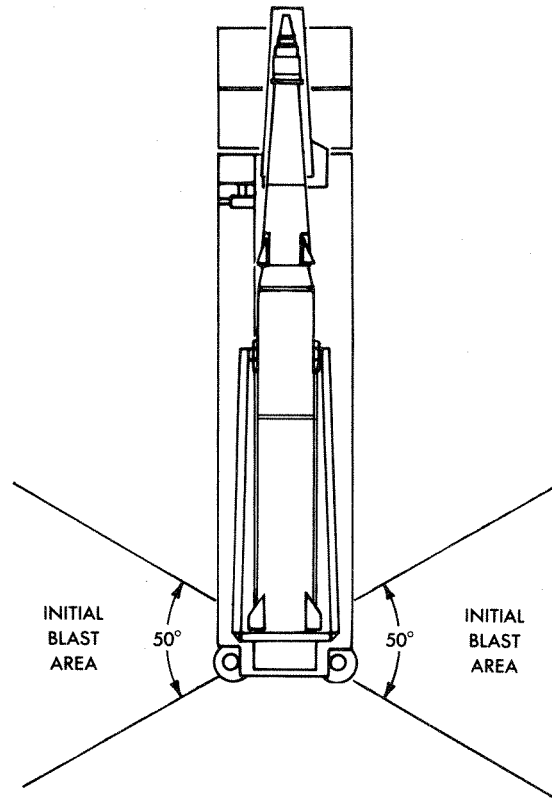

Figure 1-1. Initial Blast Area
b. *Initial Blast Area* (fig. 1-1). To provide personnel safety from missile blast during firing, personnel are evacuated upon completion of their duties to a barricaded position at least 350 feet (106.7 m) from the missile. The launch key will not be turned until all personnel have reached the proper distance away from the missile. Loose and flammable items must be removed from the initial blast area before firing.
c. *Electrical Storms.* The missile on the erector-launcher (EL) is susceptible to lightning strikes. The possibility is greatly increased when the missile is vertical. During electrical storms, the missile should be lowered and personnel should be cleared from the immediate vicinity of the equipment. See TM 9-1300-206 for more information about operation in electrical storms.